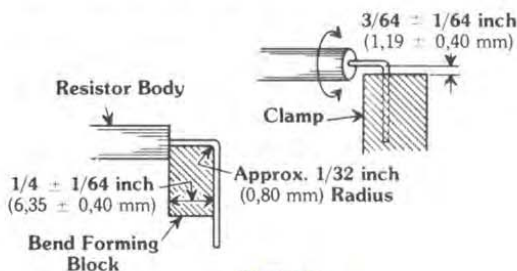

Figure 3
**6.13.1.2 Twist** — Following the test in 6.13.1.1, the leads shall be bent  $90^{\circ}$  at a point  $1/4 \pm 1/64$  inch ( $6,35 \pm 0,40$  mm) from the resistor body with the radius of curvature at the bend approximately  $1/32$  inch (0,80 mm). The free end of the lead shall be clamped at a point  $3/64 \pm 1/64$  inch ( $1,19 \pm 0,40$  mm) away from the bend. See Figure 3. The